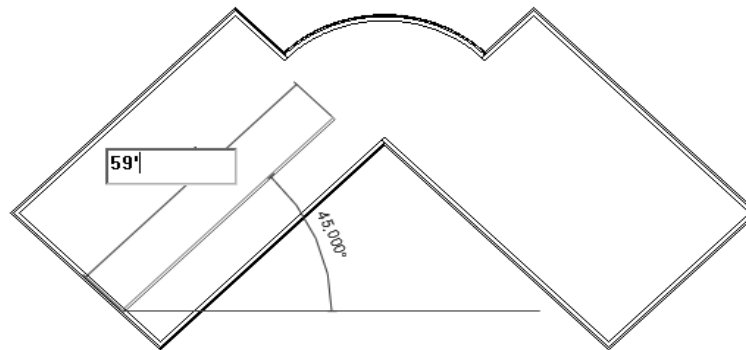

Figure 3-66 Sketching the first interior wall of the Club project
4. Move the cursor 45 degrees upward to the right. When a dashed line appears, enter the value **59'0"**, as shown in Figure 3-66 and then press ENTER.